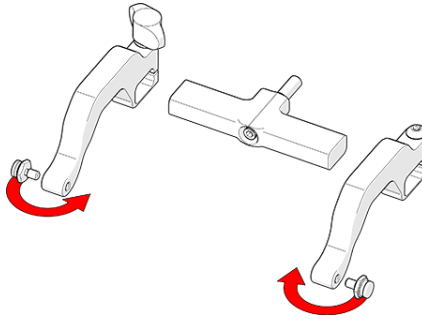

Figure 3-31 Position pivot buttons
5. Position the pivot buttons to the inside of the probe holder arms (see Figure 3-31 on page 62).